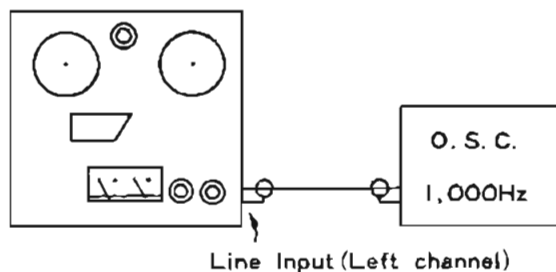

Fig. 7
- As shown in Fig. 7, connect an Audio Oscillator to the Left Line Input Jack (56) of the tape recorder, and supply a 1,000 Hz signal.
- Turn the Line Record Level Control Knob (19) so that the left channel VU meter needle indicates "O" VU (white mark). The COMPUT-O-MATIC should be set to the "OFF" position.